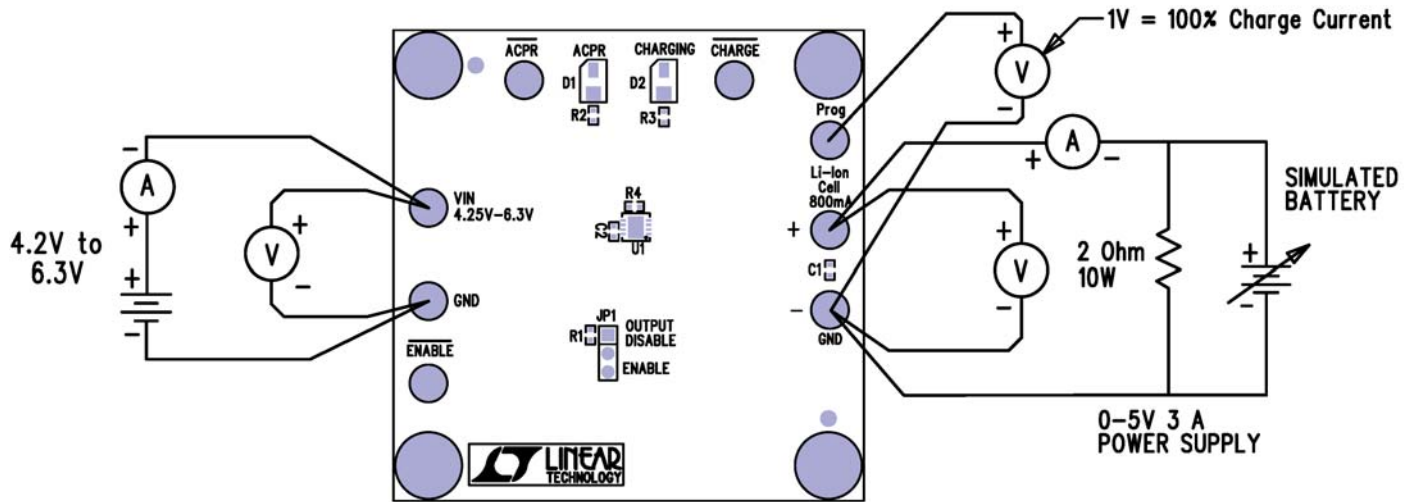

Figure 1. Proper Measurement Equipment Setup
1. Connect input power supply, meters and output load as shown in figure 1.